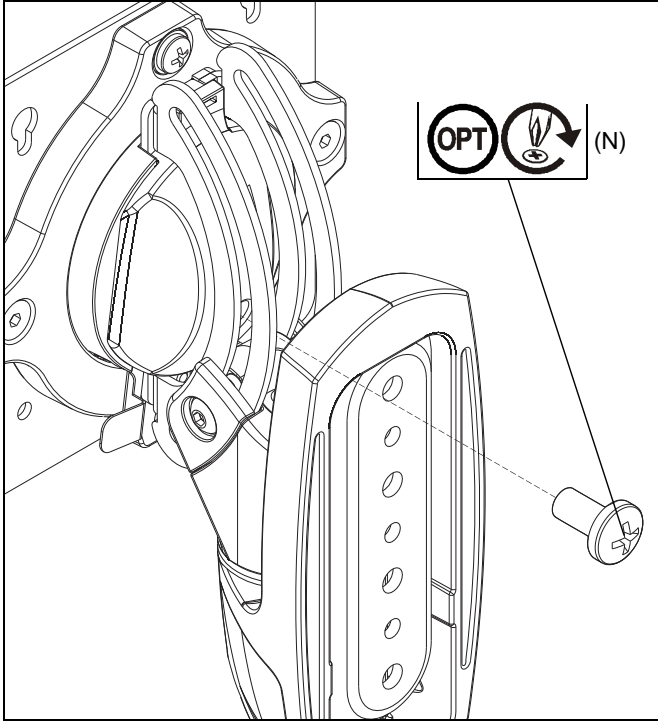

Figure 10
NOTE: In order to prevent display from being easily removed from mount using the quick release lever, install M4x4mm security screw (N) into lower hole on back of faceplate. (See Figure 10)